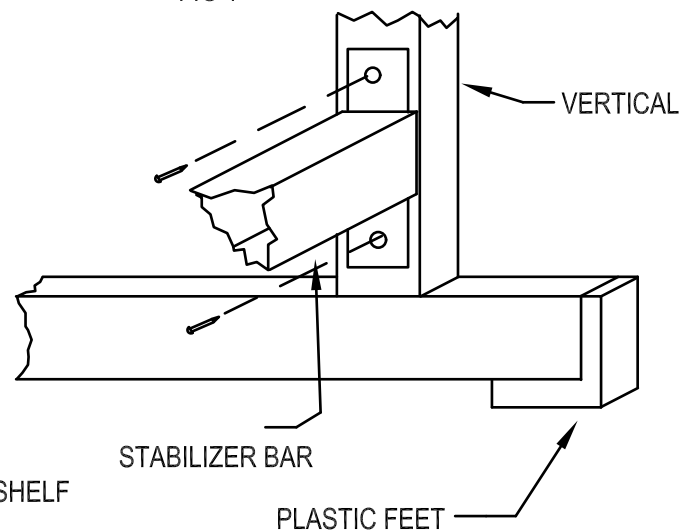

FIG 2
3. Attaching the shelf comes next and is accomplished by merely positioning the shelf between the two verticals and securing them with the #10 - 24 PRHMS screws and acorn nuts. see FIG 2 Insert the hanger rod through either hole on the side of the verticals. Position rod evenly between the verticals and secure it with the rod set screws provided. Finally insert the two plastic plugs into the rod access holes on the verticals.